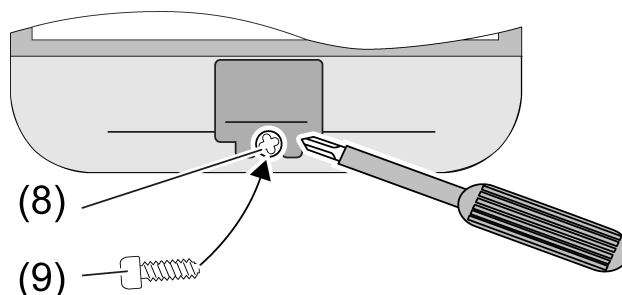

Figure 15: Locking the switch
- Turn screw (9) in the hole (8) (Figure 15).